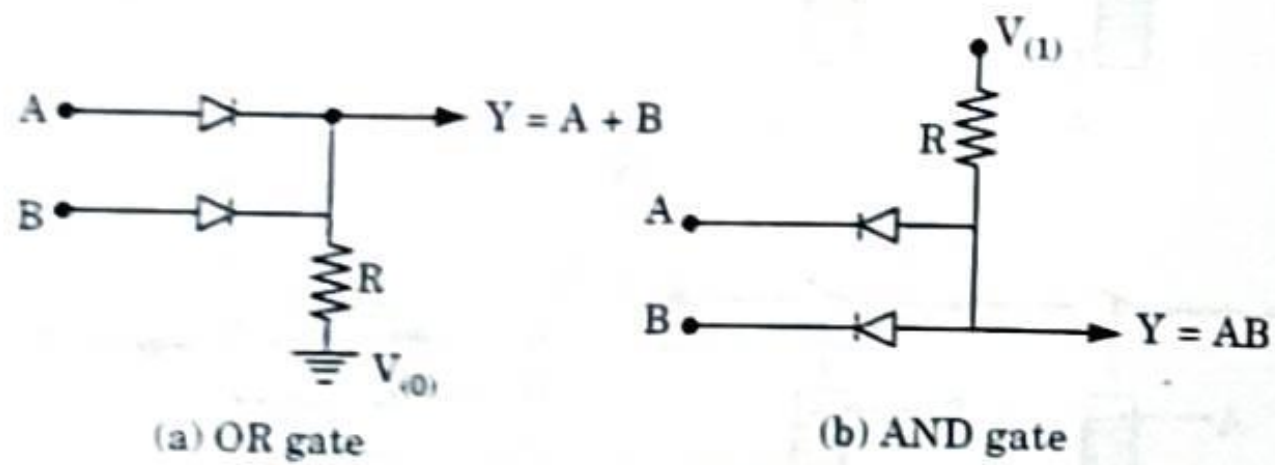

Fig. 5.6.2. DL circuits.
b. Diode logic (DL) : The two stable states of the diode are conducting (i.e., forward bias) and non-conducting (i.e., reverse bias) states. Conventional diode OR gate (circuit) and AND gate are shown in Fig 5.6.2.